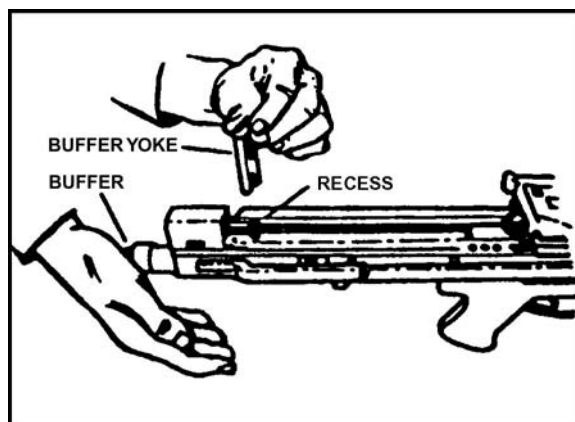

Figure 2. Buffer yoke.
- (1) Press the exposed buffer lightly with the palm of the hand (Figure 2).